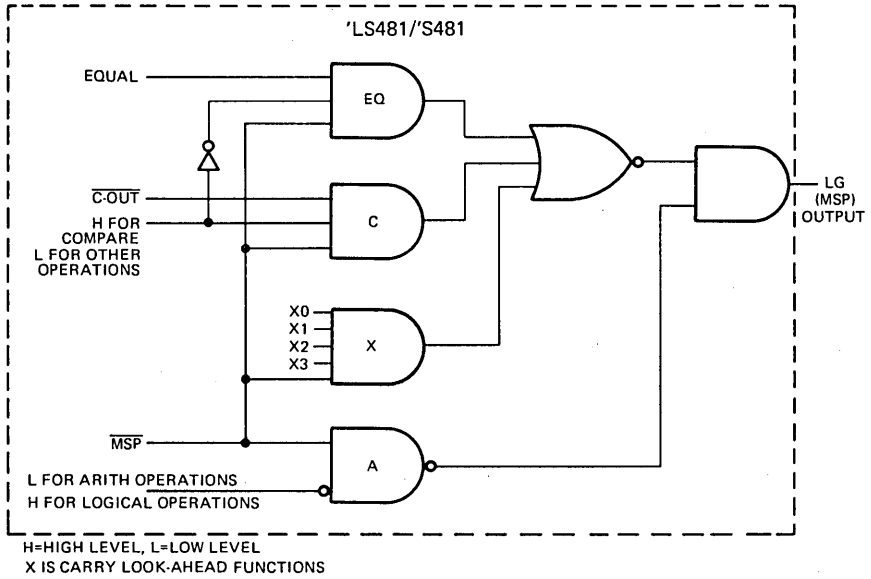

FIGURE 6 – MSP LOGICALLY-GREATER-THAN (LG) OUTPUT
### 2.7.2 Logically-Greater Than (LG, See Figure 6)
In the most-significant package (MSP) the X look-ahead function from the ALU is inhibited and the logically-greater-than (LG) output is enabled. See Figure 6. The MSP LG output is active during arithmetic and shift operation forms to provide a status indication that can be used when it is desirable to compare two unsigned integer numbers. The specific status for each operation form is listed in Table 7.